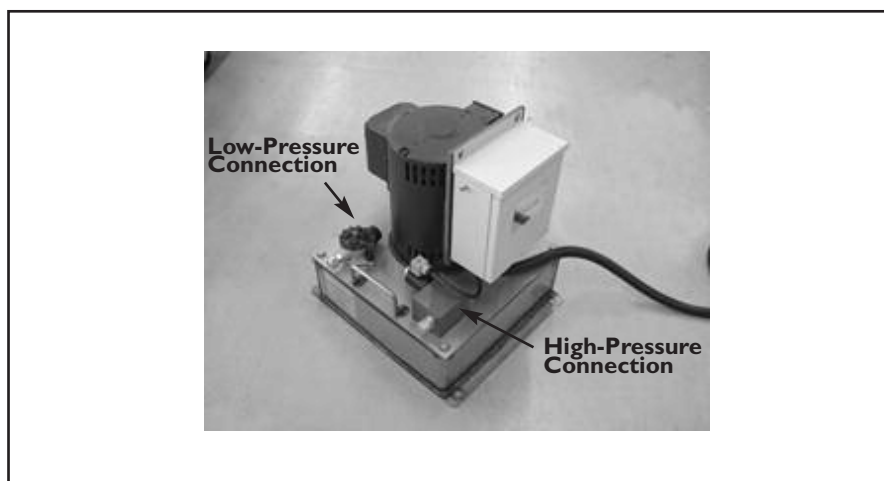

Fig. 12.2
- 12.5 Turn the circuit breaker for the Power Unit off. Connect the hydraulic hoses from the Fastlane to the Power Unit. The low-pressure hose (connected to the Fastlane) will have red tape wrapped around the hydraulic fitting. This hose will connect to the port on the fill cap. The high-pressure hose will connect to the port on the high-pressure manifold (blue box) (See Fig 12.2).